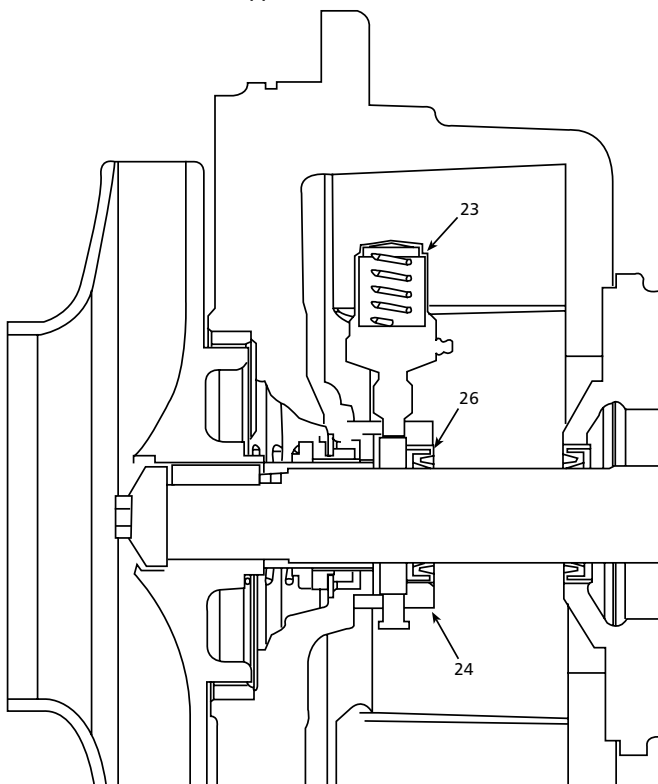

Figure 15
2. For grease feed applications, the grease gland is assembled with the "G" stamp in the 12 o'clock position. The grease feeder (23) will mount in the grease gland at a 30 degree angle from the horizontal. This is done to gain access to the grease fitting located on the grease feeder. The lip seal (26) mounted in the grease gland will be assembled as shown in Figure 15.